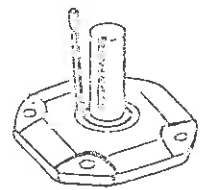

Figure 1
- C. See Figures 1 through 4—To replace seals without dismantling reducer, proceed as follows: